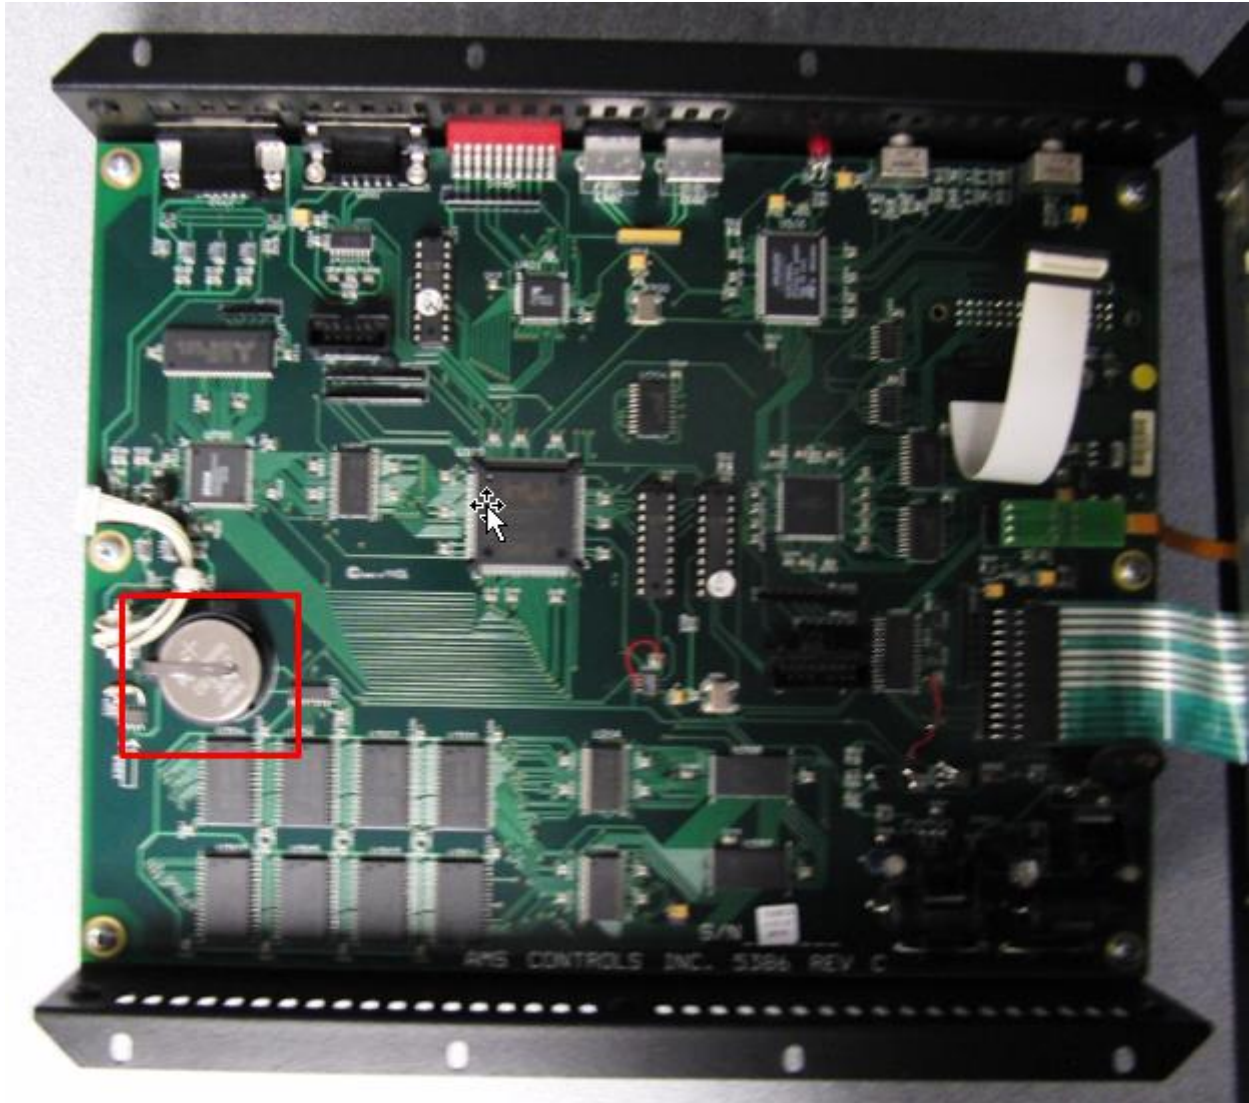

Figure 10 - Bottom side of board
8. Locate the Panasonic CR2330 battery as shown in Figure 10.